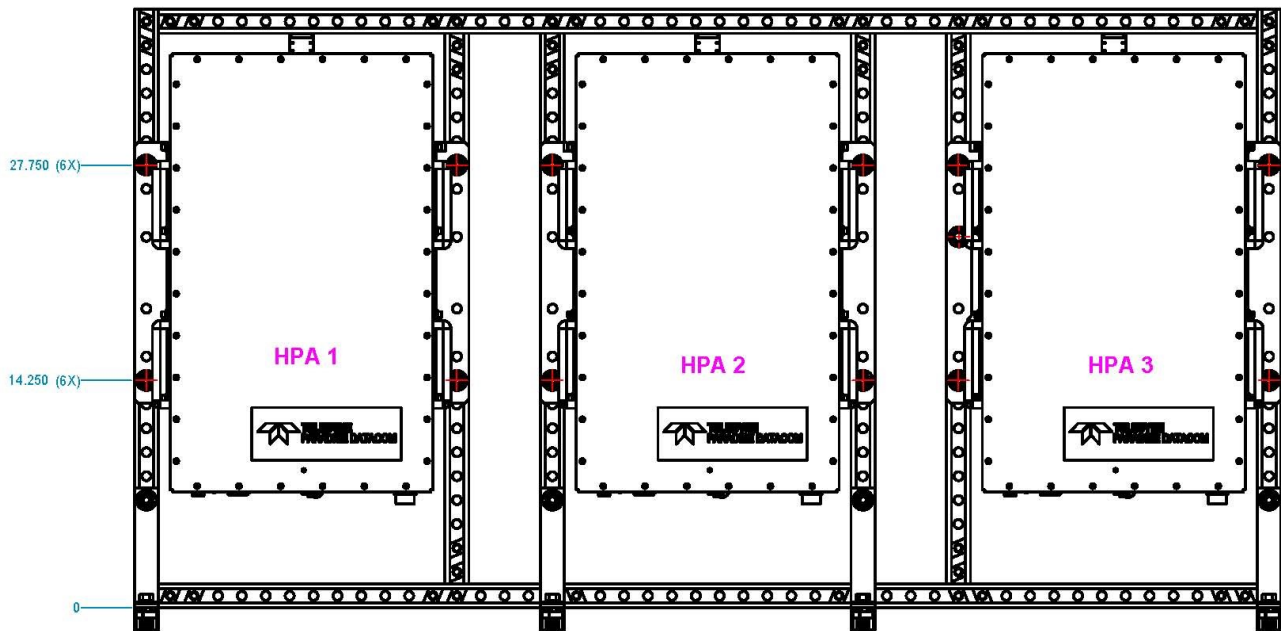

Figure 2-4: Mount HPAs to Frame
The HPAs will be mounted to the open channel side of the uni-strut frame. Mounting hardware is provided with the amplifiers. See **Figure 2-4**.
1. Insert a 1/2-13x2.75 hex bolt with 1/2" flat washer through the flat side of the uni-strut frame at the positions shown in **Figure 2-4** and through the mounting bracket of the HPAs.